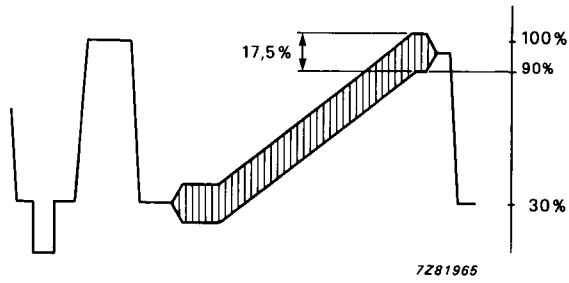

Fig. 2 Video output signal.
- Measured in accordance with the test line given in Fig. 2.